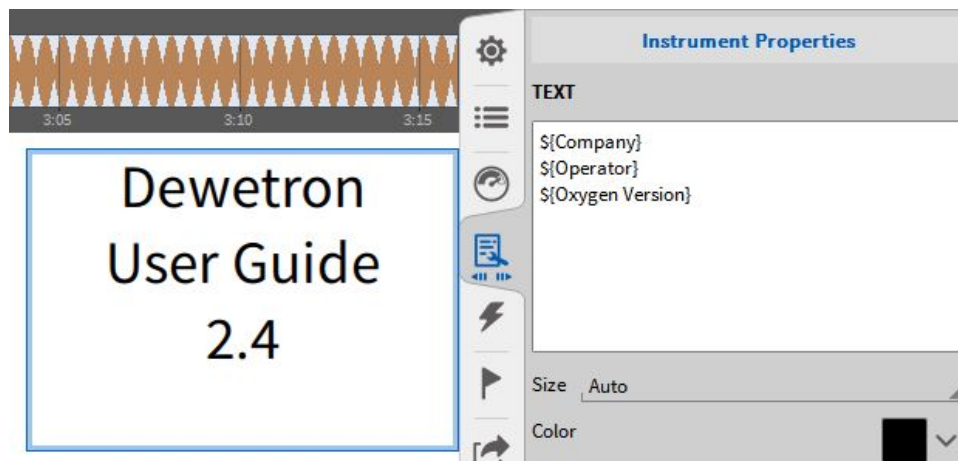

Fig. 5.27: Adding the Header Description in a Text Box
- Create a Text Box and type in the Header Data Name according to the following syntax: $\${Header\ Data\ Name}$ and the Header Data Description will show up in the Text Box (see Fig. 5.27).